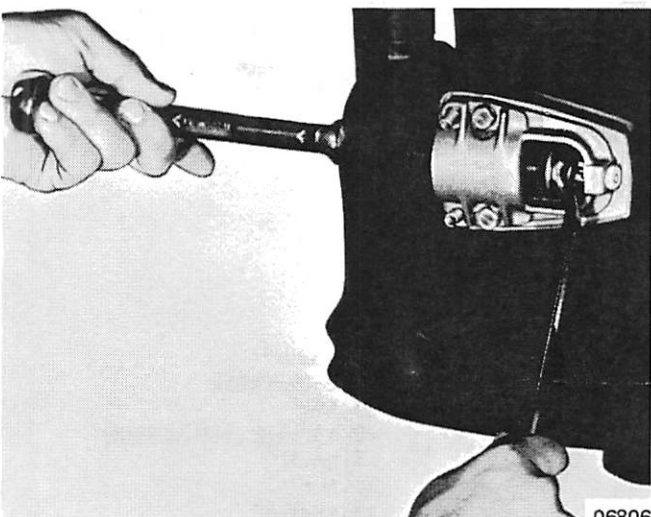

Figure 3. Removing Mounting Nuts
4. Remove nuts from lower mounting bolts. (Figure 3)
12. Install washers and nuts on lower mounts and tighten. (Figure 3)